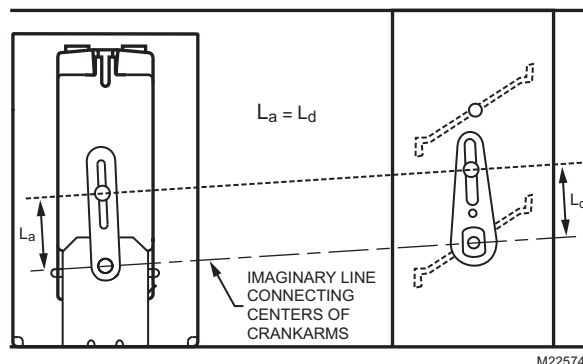

Fig. 10. Balljoint adjustment.
6. Adjust the balljoints so that they are equidistant from the corresponding crankarm centers. (See Fig. 10.)